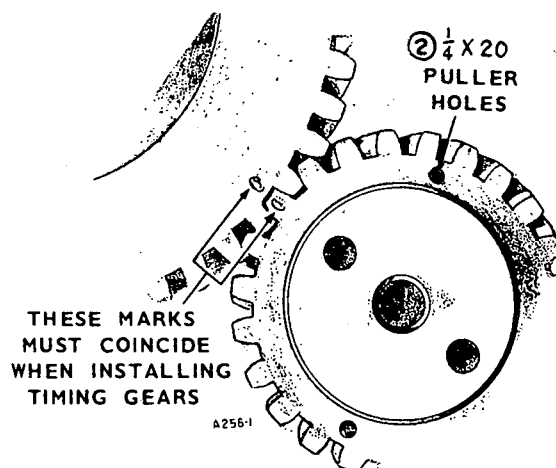

FIGURE 56. TIMING MARKS
5. Install the camshaft assembly in the engine. Align the timing marks on the camshaft gear and crankshaft gear (Figure 56).